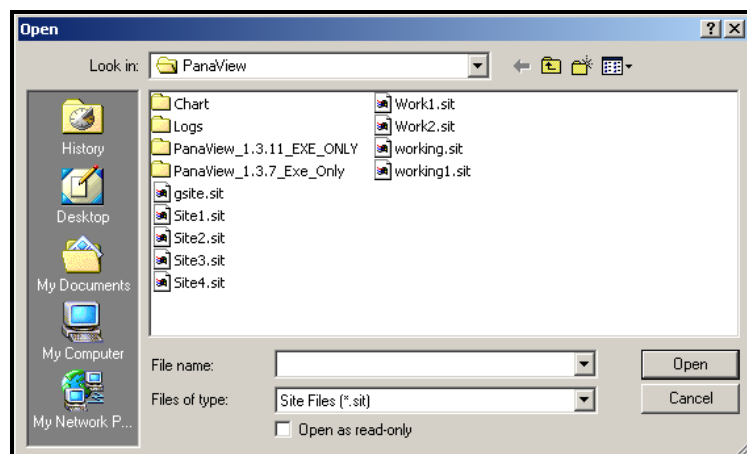

**Figure C-17: The Site File Operations Window**
3. Click on the [Site Files] button. The *Site File Operations* window (shown in Figure C-17 below) opens.
1. Highlight the desired site in the left pane. (See Figure C-17 on the previous page.)
1. Highlight the site in the left pane. (See Figure C-17 on page C-50.)